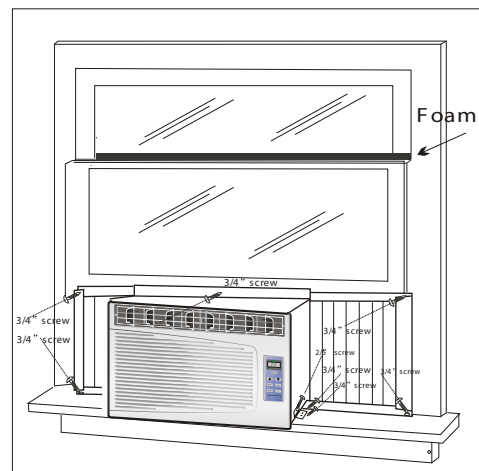

Fig. 6
6. Carefully lift the air conditioner and slide it into the open window. Make sure the bottom guide of the air conditioner drops into the notches of the L brackets. When the air conditioner drops into the L brackets, the air conditioner will be centered in window opening as show in Fig. 6.
First, fix both sides onto the window sill with two 3/4" screws and one 2/5" screw (which is unscrewed from each side of the unit). Then fix top channel to widow sash with one 3/4" screw and fix side curtain frames with four 3/4" screws as shown in Fig.6.